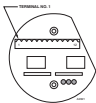
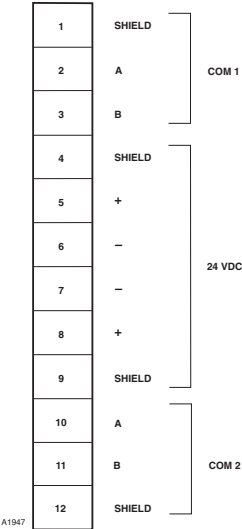

Figure 3-2—Network Extender Wiring Terminal Location
Figure 3-3—Network Extender Wiring Terminal Identification
2. Connect 24 Vdc power lead wires and communication network cable to the terminal block. (See Figure 3-2 for terminal location and Figure 3-3 for terminal identification).